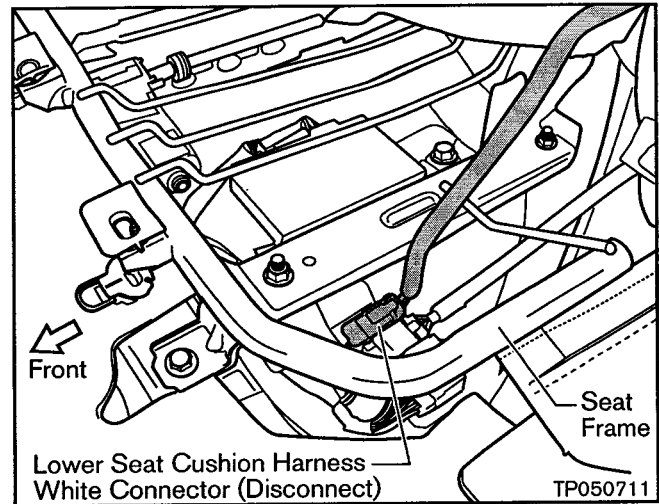

Figure 4
- d. Disconnect the Lower Seat Cushion Harness White Connector (see Figure 4).